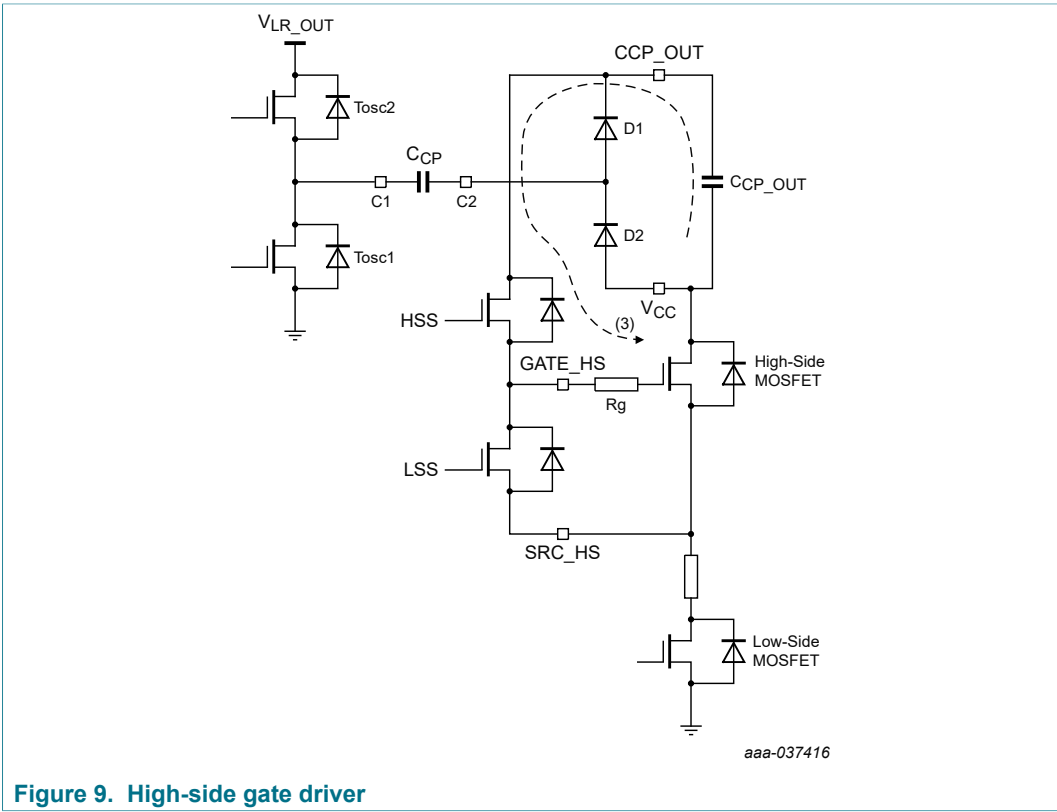

Figure 9. High-side gate driver
Figure 9 represents a simplified circuitry of the high-side gate driver. Transistors TOSC1 and TOSC2 are the oscillator-switching MOSFETs. When TOSC1 is on, the oscillator is at low level. When TOSC2 is on, the oscillator is at high level. The capacitor C_{CP_OUT} provides peak current to the high-side MOSFET through HSS during turn-on (3).